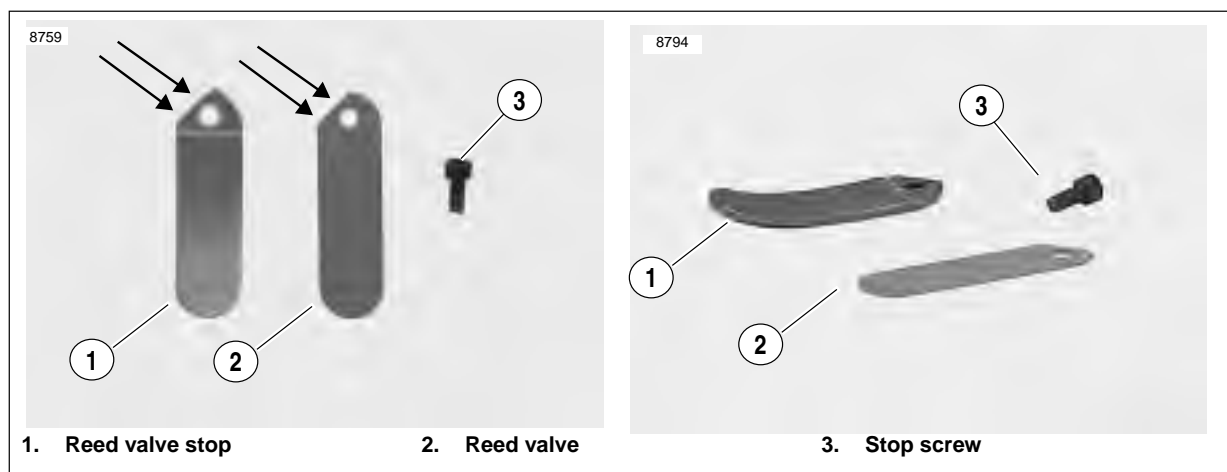

Figure 3-117. Reed Valve Stop and Reed Valve
- See Figure 3-117. The reed valve (3) opens on the downstroke to relieve crankcase pressure and closes on the upstroke to prevent vapors returning to the crankcase. The curved reed valve stop (2) limits the movement of the reed valve. See 3.13 CRANKCASE BREATHING SYSTEM.
- Remove the fastener (1), the reed valve stop (2) and the reed valve (3).
- See Figure 3-117. To replace the assembly, align the edges of the reed valve (3) and the reed valve stop (2) to prevent premature failure of the reed valve.